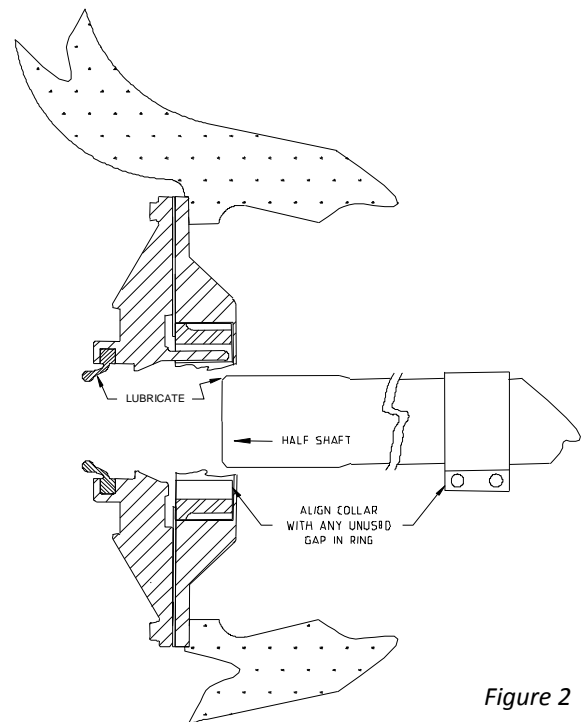

Figure 2
15. Insert the half shaft ensuring that the drive collar clamp is aligned with a notch in the traction aid ring (8W8744). Note that when an isolation seal is fitted there are three less useable notches in the traction aid ring. See figure 2.